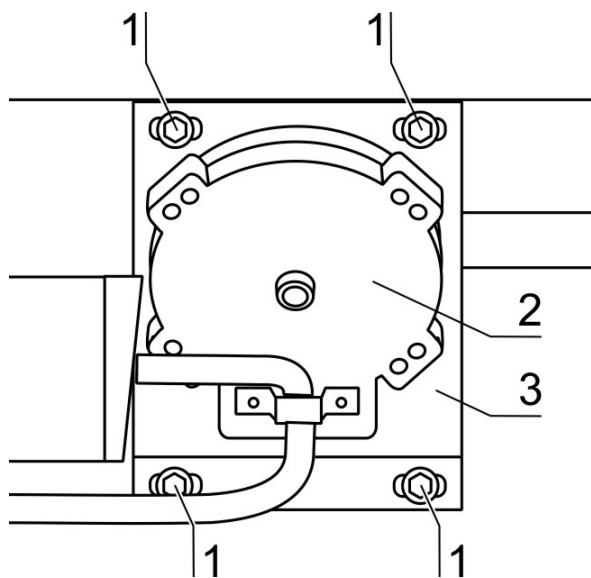

Figure 76. Window drive mounting bracket
1. **Figure 76:** Loosen the motor mounting bracket [3] at the mounting frame. Loosen the four retaining screws [1] so far that the retainer is free to move.